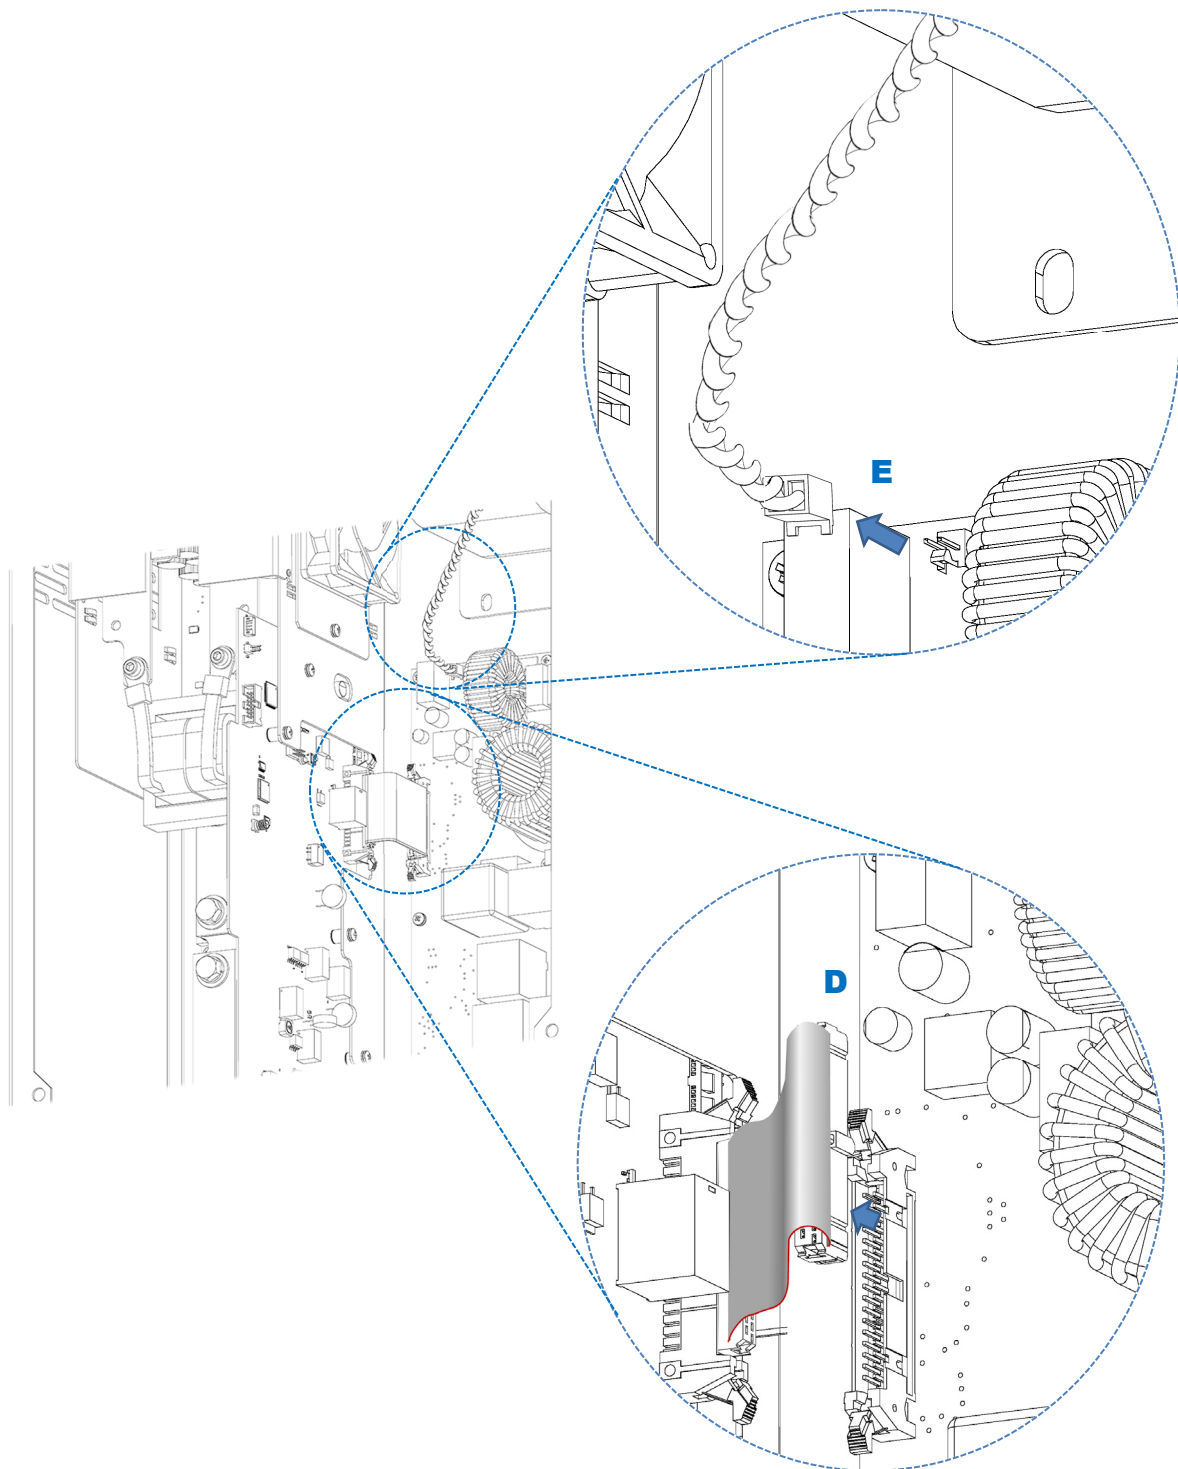

Figure 44 AC Board Connectors
3. On the AC board, remove the following connectors (see Figure 44):
- Replace the connectors **E** and **D**. See Figure 44 if necessary.